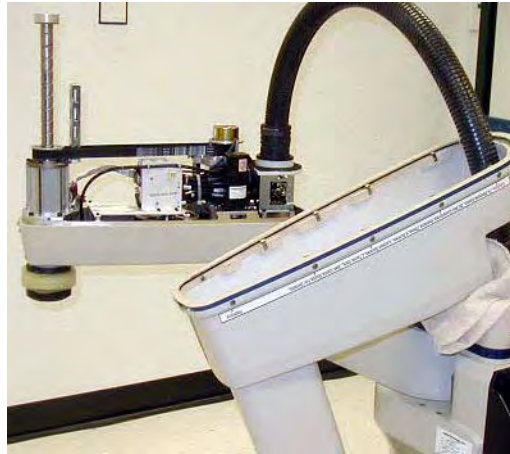

Figure 10-9. IP 65 Robot with Outer Link Cover Removed
7. When all 8 screws are loose (but not removed), lift the cover up and slide it back along the cable track and out of the way. Protect the cover with a soft cloth or other padding material so the cover does not get scratched. See Figure 10-9.